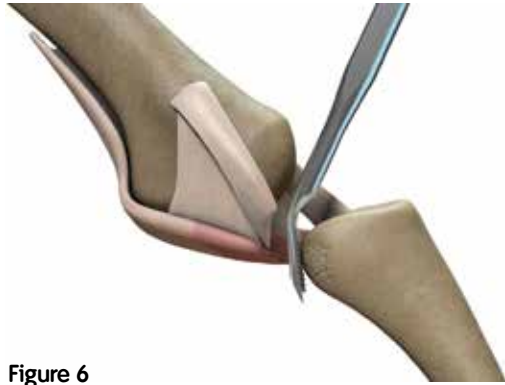

Figure 6
8. To promote healing, denude the ligament insertion sites using the Double Ended Rasp (REF 72204349) (Figure 6).